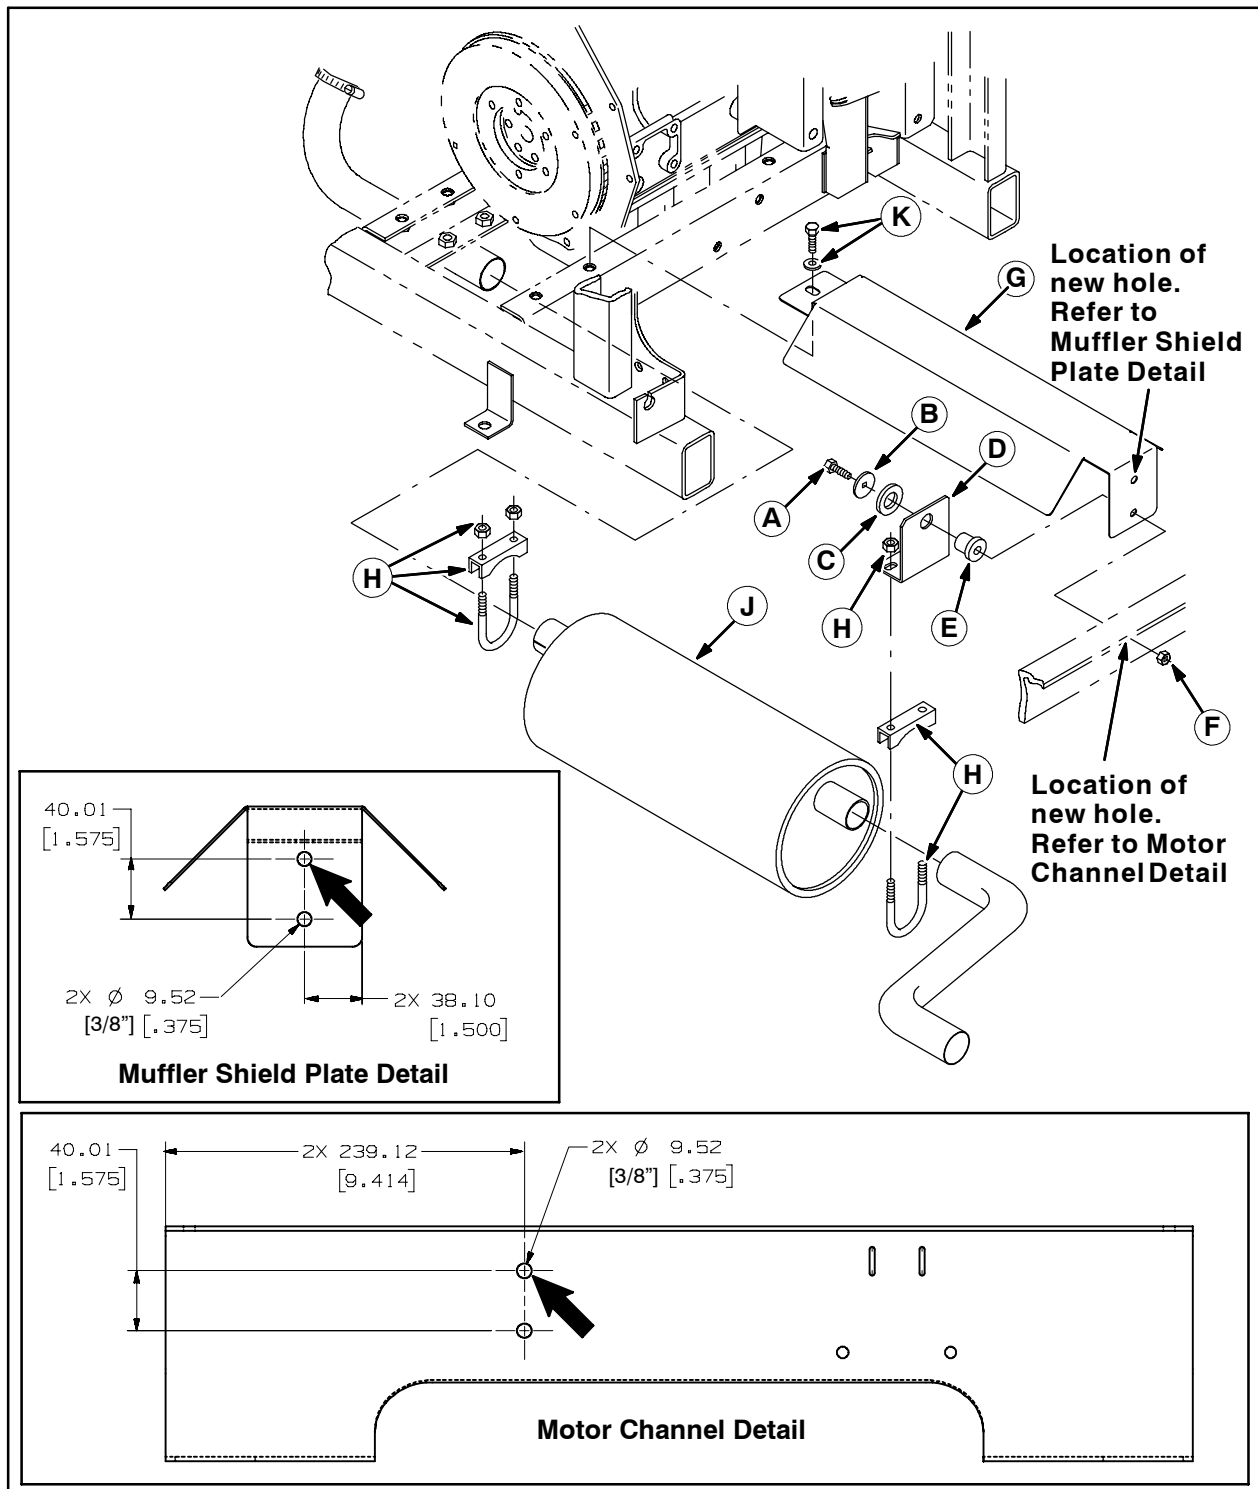
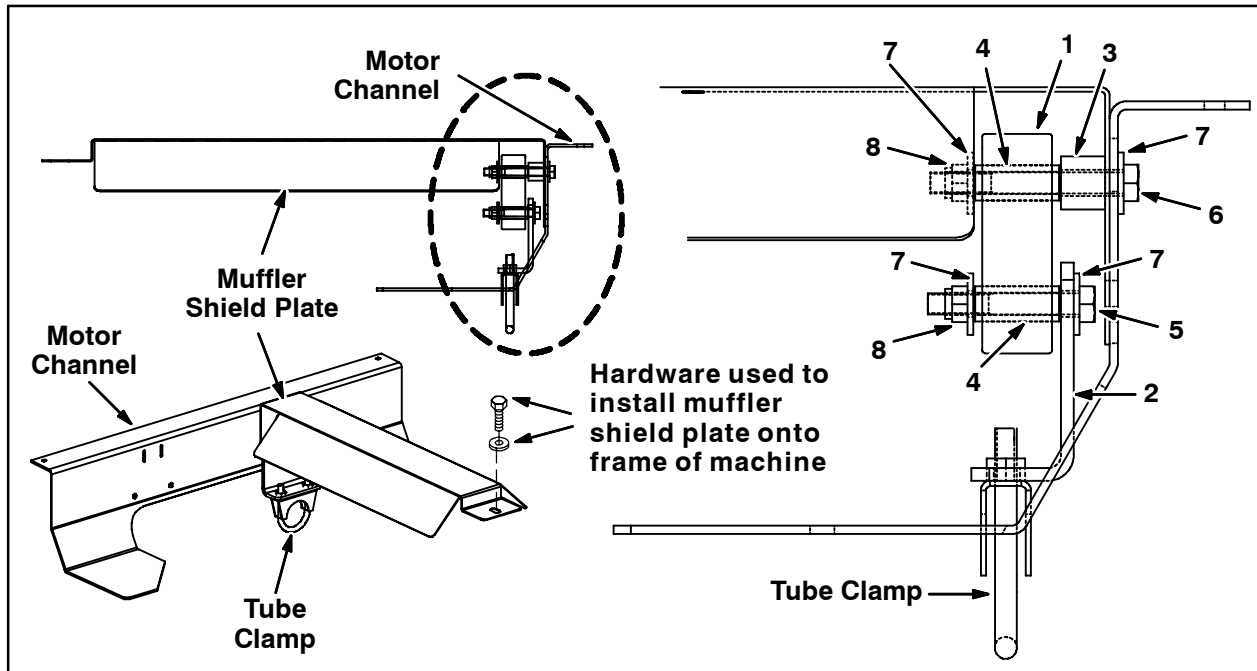

FIG. 1
FIG. 2
1. Remove both tube clamps (H) holding the muffler (J) onto the machine and remove the muffler from the machine. Set aside items removed from the machine in this step. Refer to Fig. 1.
2. Remove the hex nut (F), vibration isolator (E), muffler hanger bracket (D), both flat washers (B) and (C), and the hex screw (A) from the muffler drip shield plate (G). Discard items removed from the machine in this step. Refer to Fig. 1.
3. Remove the hardware (K) securing the muffler shield plate (G) onto the machine and remove the muffler shield plate from the machine. Set aside parts removed from the machine in this step. Refer to Fig. 1.
4. Drill a 3/8" hole in the muffler shield plate (G). Refer to Muffler Shield Plate Detail in Fig. 1.
5. Drill a 3/8" hole in the muffler shield plate (G). Refer to Motor Channel Detail in Fig. 1.
6. Insert a sleeve (4) into each hole in the rubber isolator (1). Refer to Fig. 2.
7. Use hex screw (5), two flat washers (7), and hex nut (8) to install the new muffler mounting bracket (2) onto the rubber isolator (1). Refer to Fig. 2.
8. Use hex screw (6), two flat washers (7), steel spacer (3), and hex nut (8) to install the rubber isolator (1) and the muffler shield plate (G) onto the motor channel. Use the new holes drilled into the muffler shield plate and motor channel for installation. Refer to Fig. 2.
9. Use the hardware (K) to install the muffler shield plate (G) onto the frame of the machine. Refer to Fig. 2.
10. Use the previously removed tube clamps (H) to install the muffler (J) onto the machine. Refer to Fig. 1 and Fig. 2.